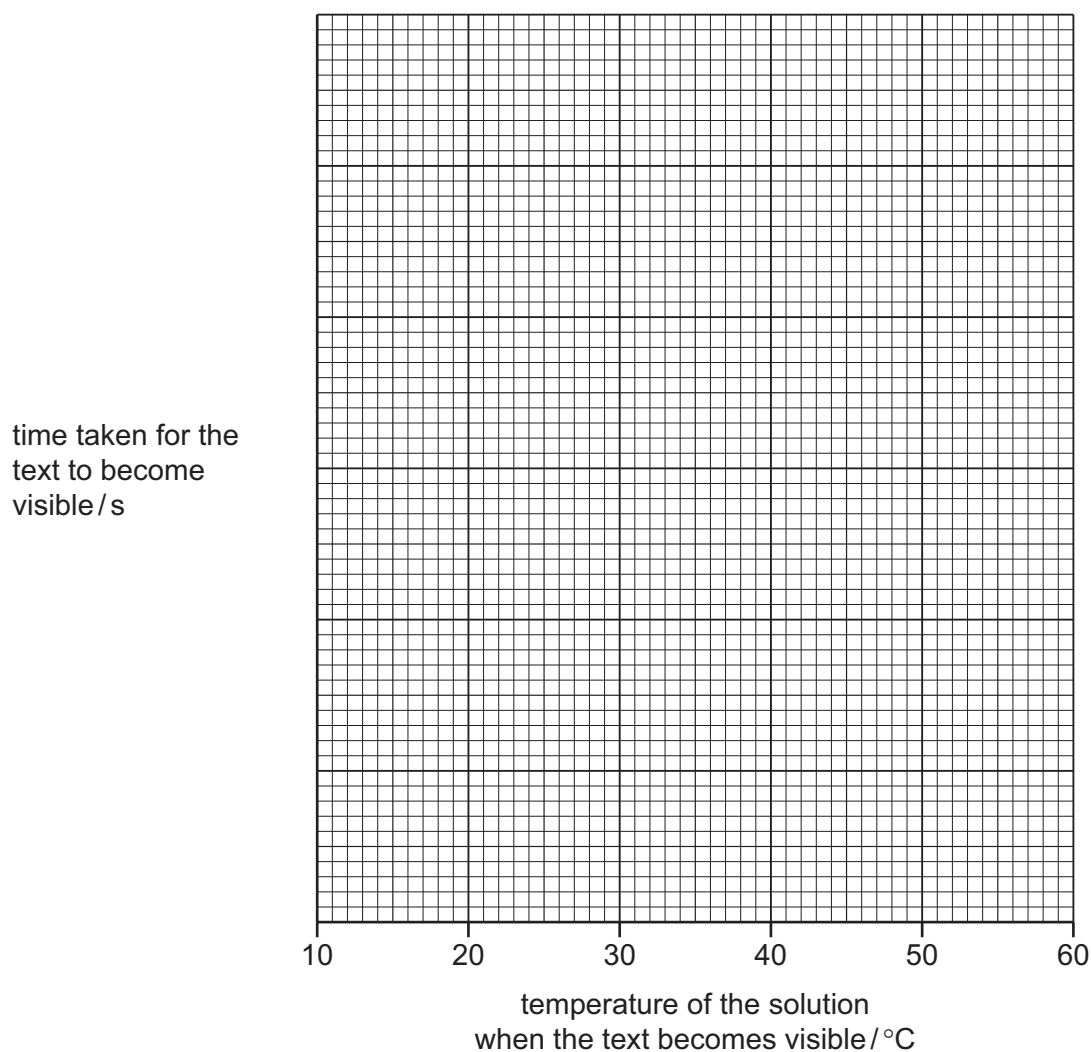

Fig. 2.2
- (b) Write a suitable scale on the y-axis and plot your results from Experiments 1 to 5 on Fig. 2.2. Draw a smooth curve of best fit.
Show your working on Fig. 2.2.